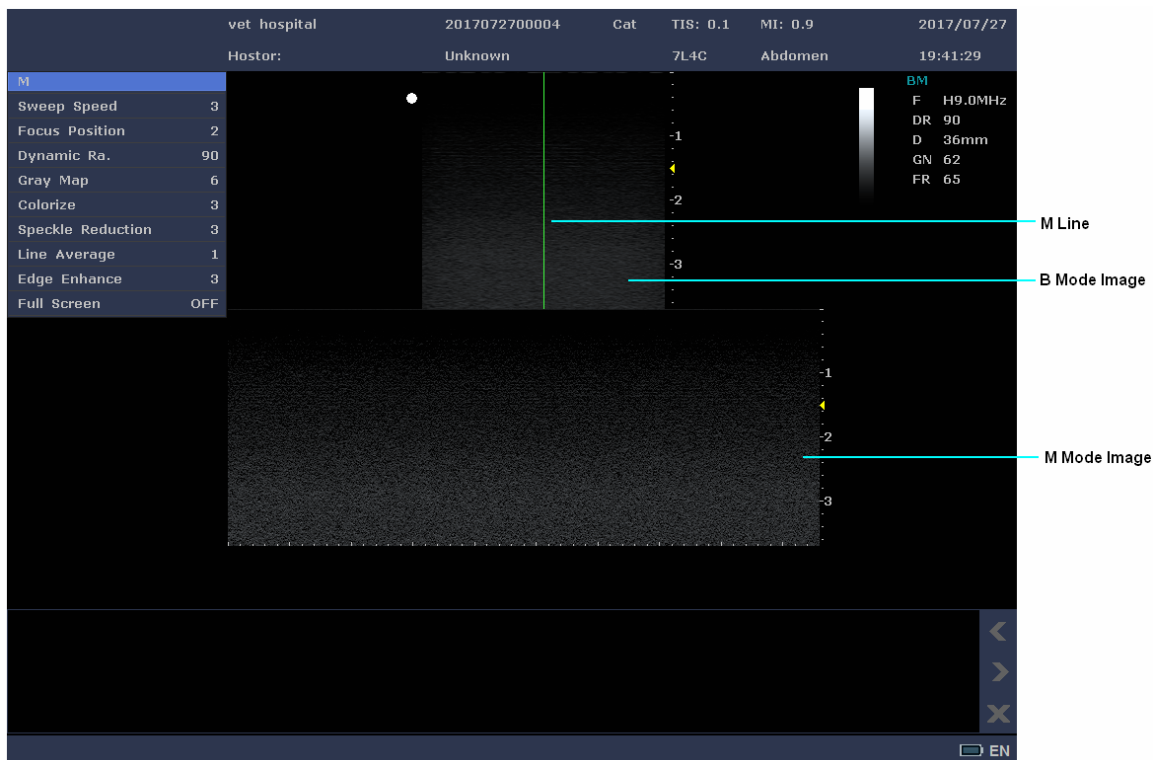

Figure 6-7 M Mode Image
2. Press the **M** key on the control panel to enter the M mode, as shown in Figure 6-7.